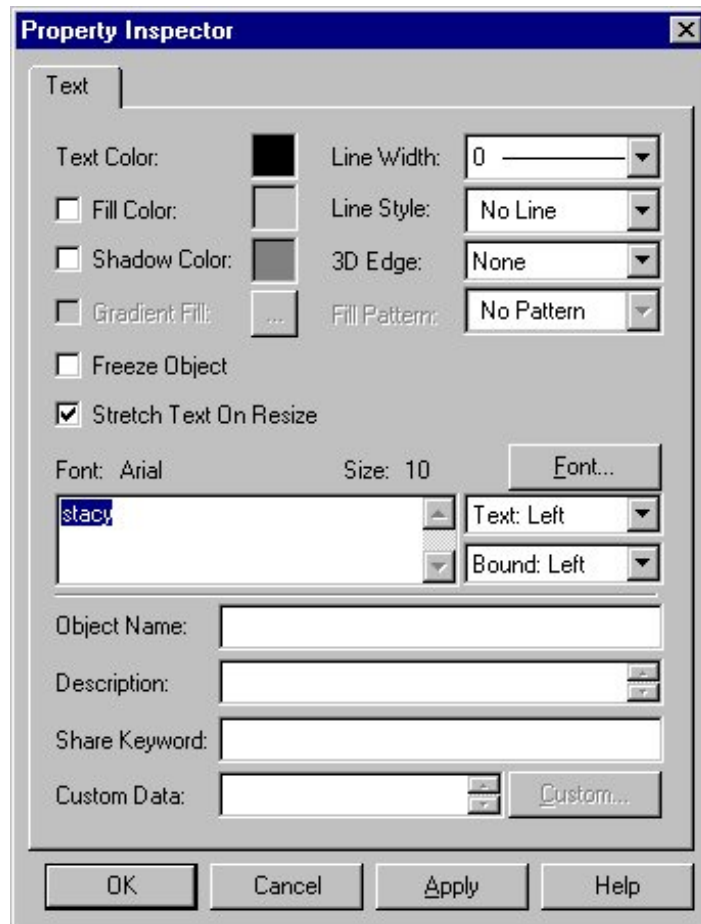

Figure 9-1: Property Inspector Dialog Box: Text Tab
The Property Inspector contains several tabs. The primary tab is General, which reflects the properties of a given static object. The Property Inspector may also display additional tabs, which show information about attached dynamics. (In Figure 9-1, the text object has a size action, a flash action, and a hide action.)
- 1. Double-click on an object. The Property Inspector dialog box appears (Figure 9-1).